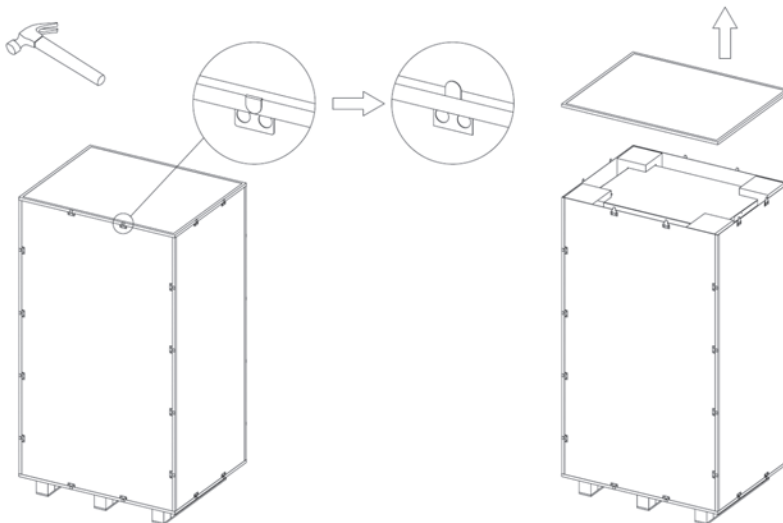

Figure 9 Unpacking 1
- The reserved length of power cable reserved shall be  $700\text{ mm} \pm 20\text{ mm}$ , and the protruding from the base through which 5 wires pass, shall be less than 30 mm, as shown in **Figure 9**.
4. The height of the installation foundation is recommended to be  $200\text{ mm} \pm 20\text{ mm}$ , and the vertical inclination of the installation shall not exceed  $5^\circ$ . See **Figure 9**.